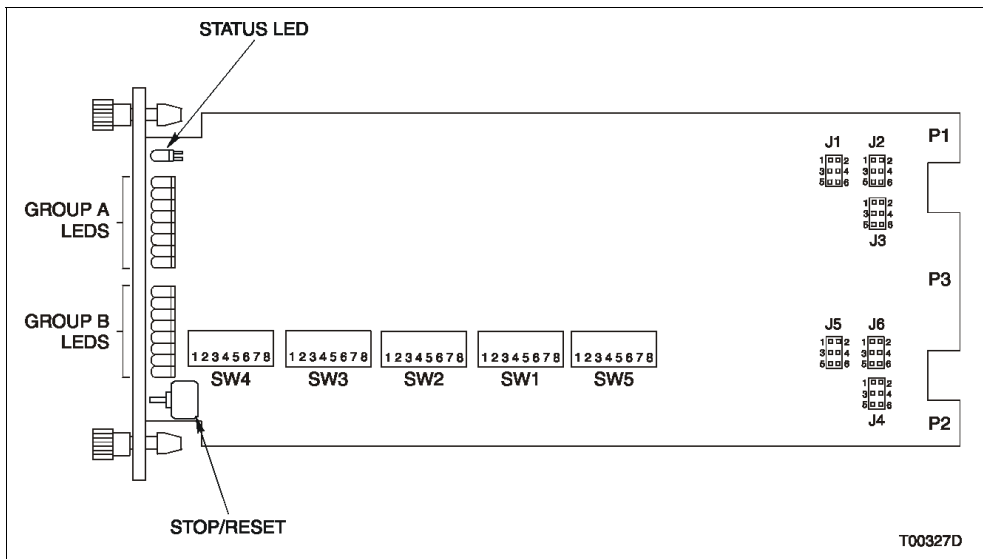

Figure PR5-1. INNIS21 Layout
This procedure describes the steps required to set up the INNIS21 module of the HCU interface (Fig. PR5-1). Both switches and jumpers must be set before putting the module into operation.
- 1. Set the node address with switch SW1 (Fig. PR5-1). The address must be unique. Valid node addresses are from one to 250. Table PR5-1 lists some example node address settings.